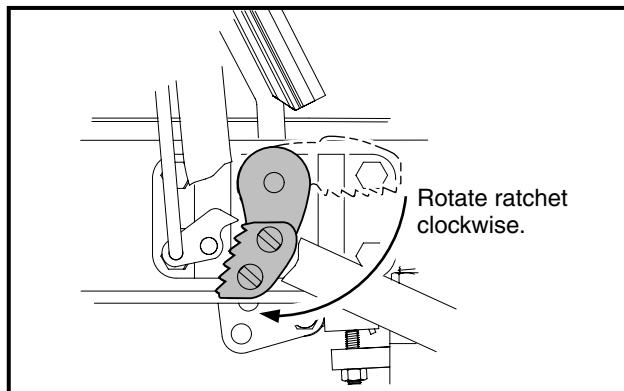

Figure 5-9 Ratchet Installation
8. Press the brake pedal slightly, and with the park brake ratchet oriented so that the tip of the ratchet is pointed toward the rear of vehicle, slide the ratchet onto the pivot rod (do not slide the ratchet onto the pivot rod splines). Release the brake pedal and allow the ratchet to rotate until its tip is pointed downward (**Figure 5-9, Page 5-8**). The ratchet should now rotate freely on the rod.